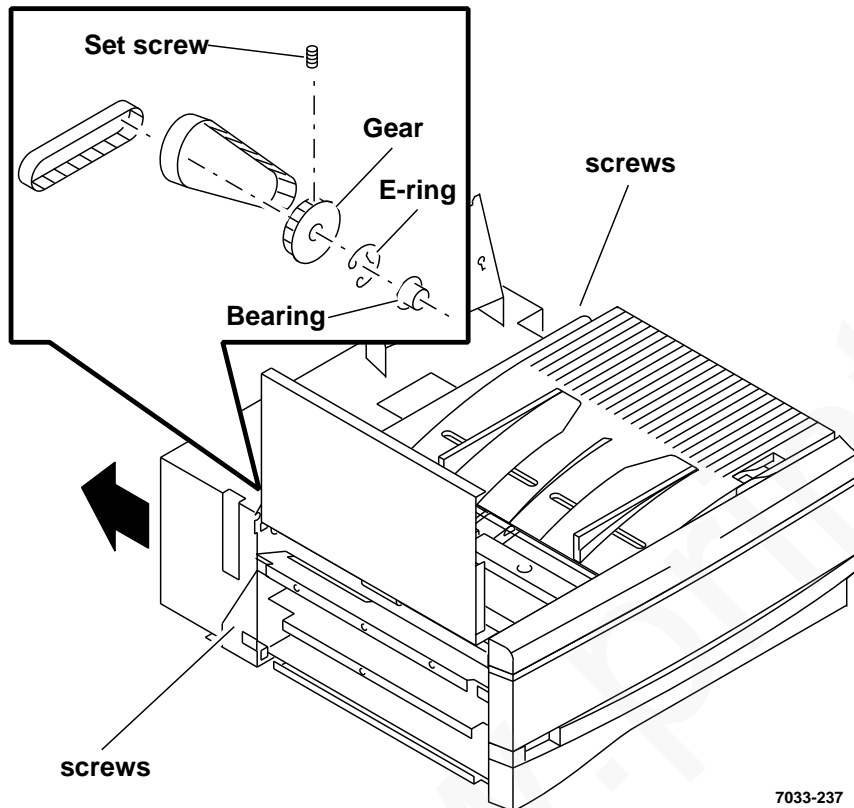

Figure 11. Input drive roller rear pulley, belts, and bearing removal
- c. Remove the two belts from pulley (Figure 11).
- d. Loosen set screw in input drive roller shaft pulley (Figure 11), and remove pulley.
- e. Remove bearing from end of shaft (Figure 11).